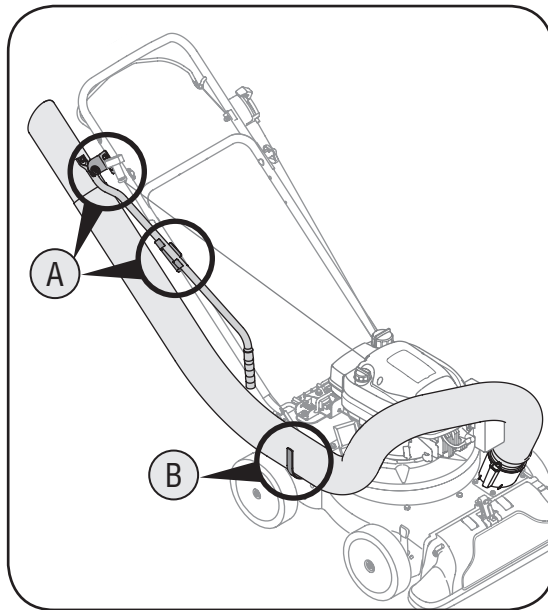

Figure 6
6. a. Snap the hose handle first into the upper hose handle bracket and then into the lower hose handle bracket. See Figure 6.